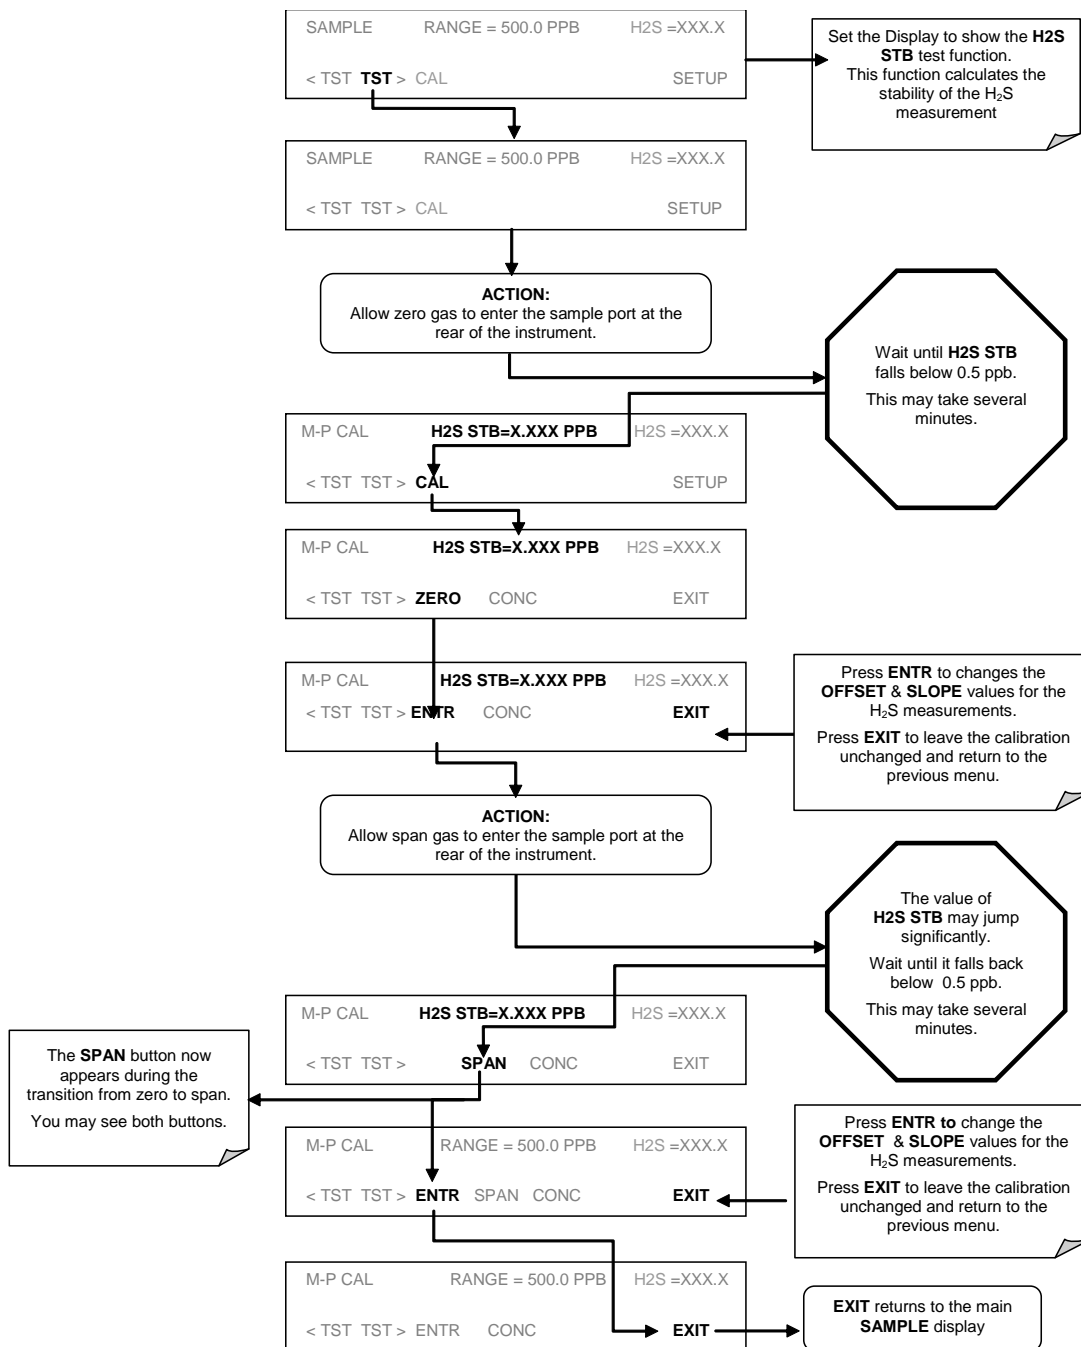

**Figure 6-1. Setup for Manual Calibration without Z/S Valve or IZS Option**
**STEP ONE:** Connect the sources of zero air and span gas as shown in Figure 6.1.
1. Zero air and span gas must be supplied to the analyzer through the sample gas inlet as depicted in Figure 6-1.